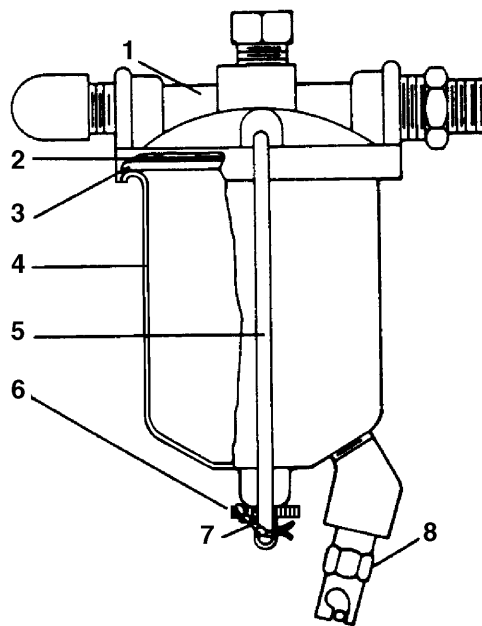

Figure 2-10. Fuel Strainer
- a. The fuel strainer, equipped with an easy drain valve is mounted on the lower left side of the fire wall. The fuel strainer should be drained regularly to check for water or dirt accumulations. (Refer to Figure 2-10.)